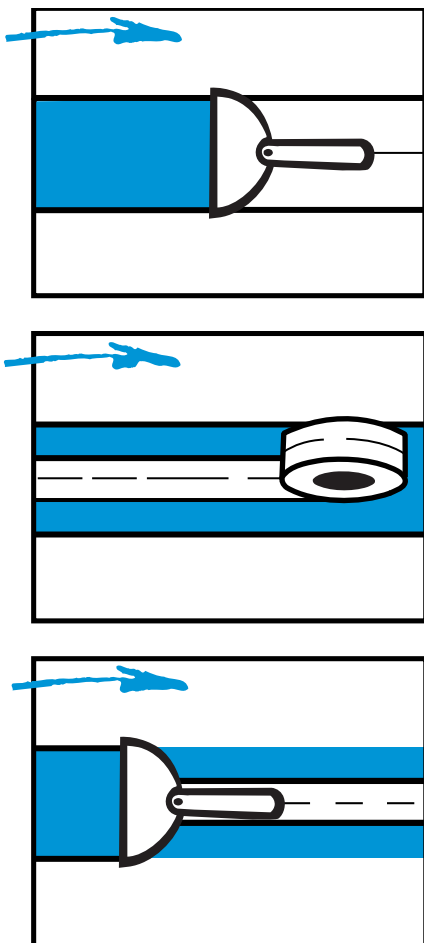

FIGURE 55 Bedding Coat
- Place tape along the joint and bed it into the compound, removing excess compound and any air bubbles from behind the tape [Refer to Figure 55]